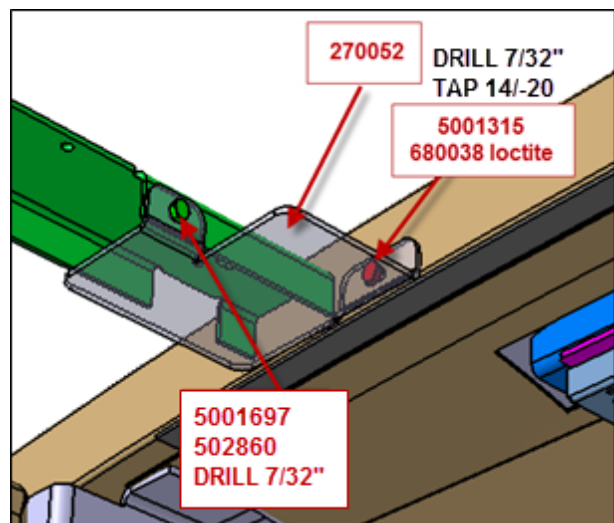

FIGURE 5
- Install bracket #270052 as shown in fig. 5. Clamp the bracket on the longitudinal roof channel.